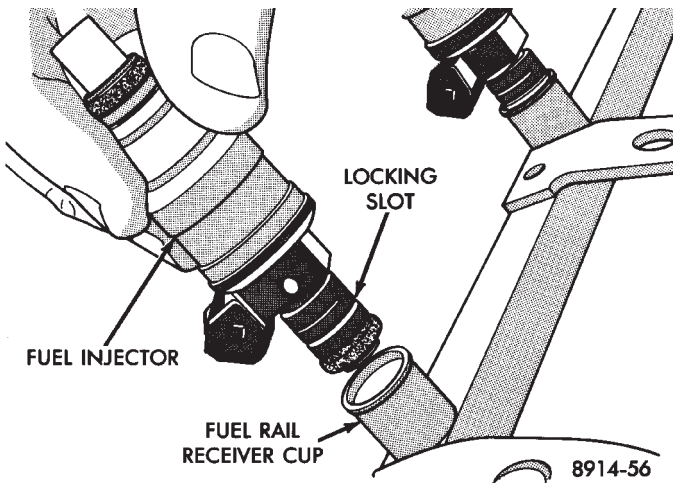

Fig. 16 Servicing Fuel Injector
- (6) Pull injector straight out of fuel rail receiver cup (Fig. 16).
- (7) Check injector O-ring for damage. If O-ring is damaged, it must be replaced. If injector is to be reused, a protective cap must be installed on the injector tip to prevent damage.
- (8) Repeat procedure for remaining injectors.
(2) Being careful not to damage O-ring, install injector nozzle end into fuel rail receiver cap (Fig. 16).